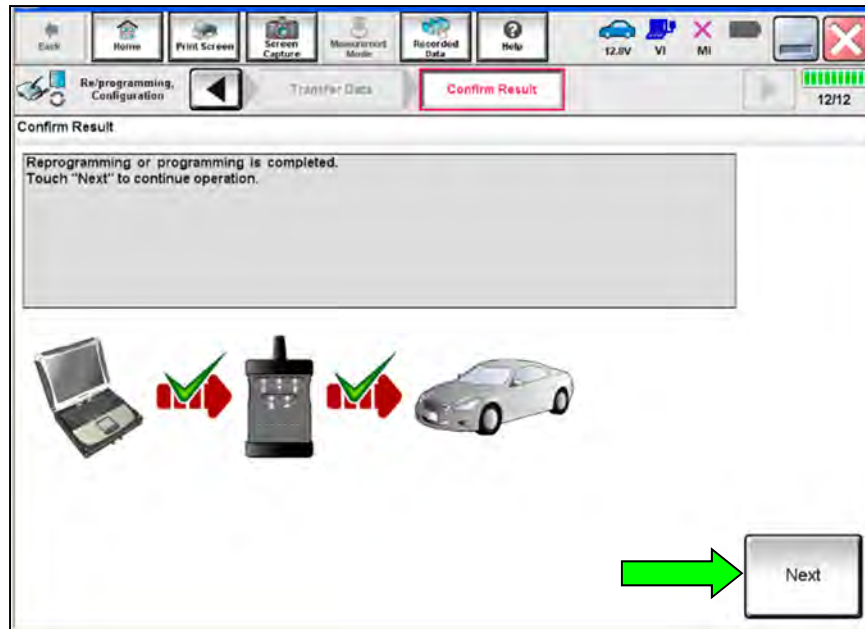

Figure 20
32. When the screen in Figure 20 appears, reprogramming is complete.